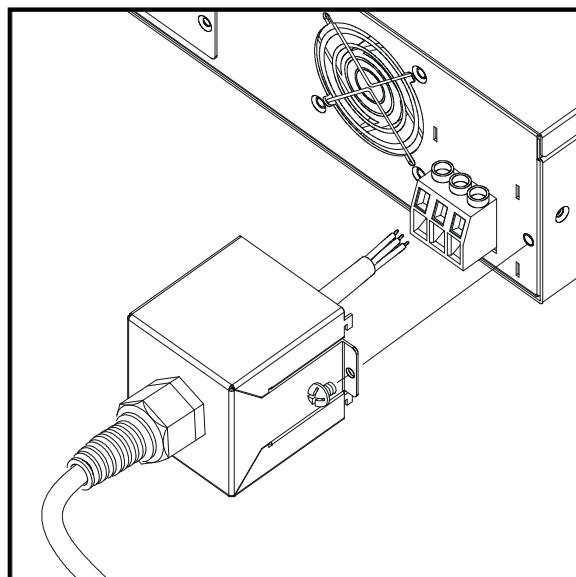

Figure 2-2
- (1) The AC input connector board is located on the right side of the rear panel.
- (2) The power cable must be rated for at least 85°C.
- (3) The power cable size must be within 10AWG-12AWG. (**Note:** the 62050P must be within 8AWG-10AWG when connecting 3-phase 4-wire Δ.)
- (4) To assemble the 62006P, 62012P and 62024P see Figure 2-2 and perform the following steps: